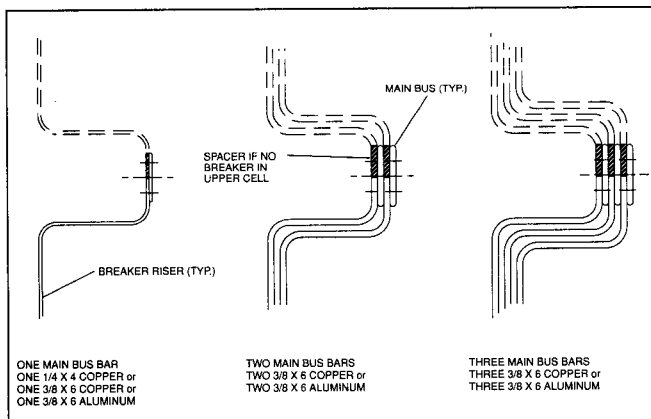

Figure 18. Main Bus Joints Connection Configurations
- 7.C. Spacers are required at certain bus joints to insure the cross sectional area of the joint. The conditions where these spacers are required vary with the type of bus joint. Refer to **Figure 18**.